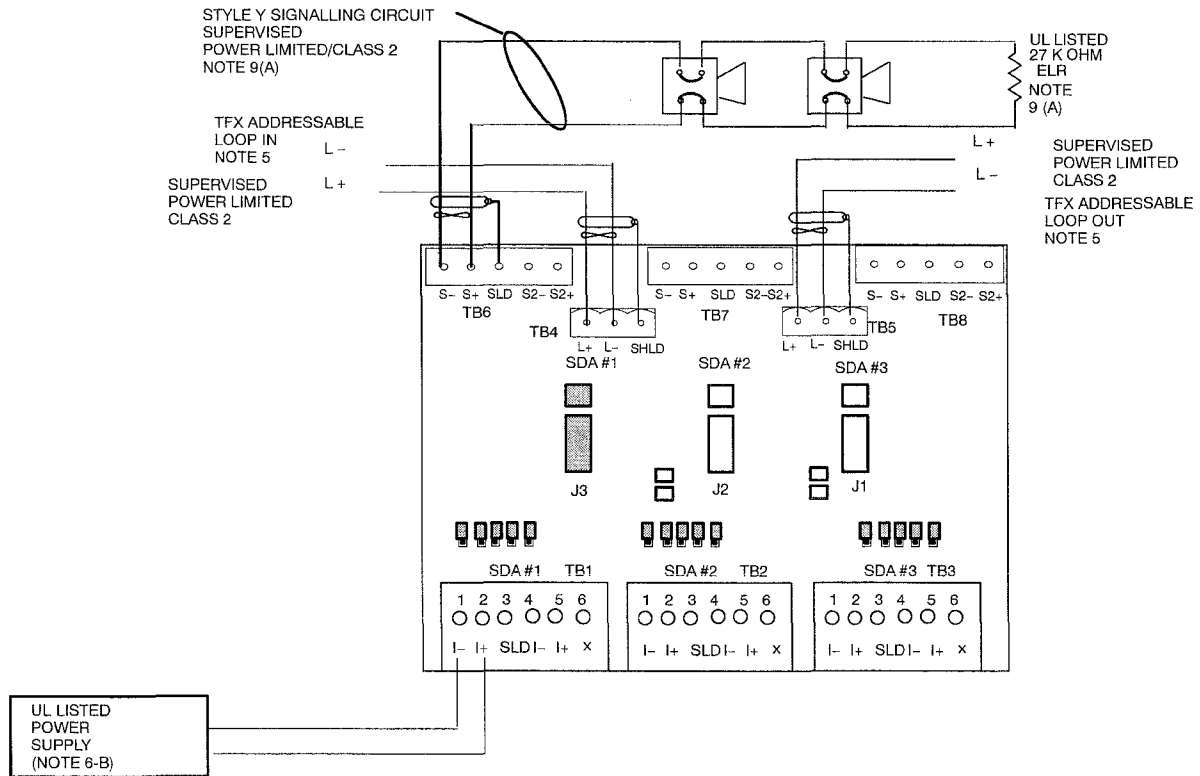

Figure 5. Typical Wiring for 505SDA Module, DC Application, Installed on OXM-501 RM/SDA Motherboard.
19. Wiring to 505SDA DC Input Application signalling circuit terminals (see Figure 5):